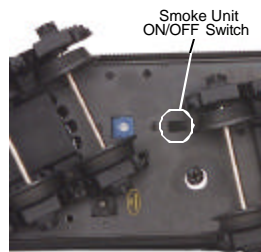

Figure 5. Smoke Switch
2. If you choose not to prime the unit with fluid, turn the smoke unit switch located under the tender to the OFF position (Fig. 5 on pg. 12). **Running the engine without a primed smoke unit may cause damage.** See the “ProtoSmoke Unit Operation” section of this book for more information on smoke unit maintenance.
If you choose not to add the fluid (or have already added the fluid but choose to run smoke-free), turn off the smoke unit switch located under the tender (see Fig. 5). **Failure either to add fluid to the unit or to turn it off may damage the smoke unit heating element and/or wicking material.**